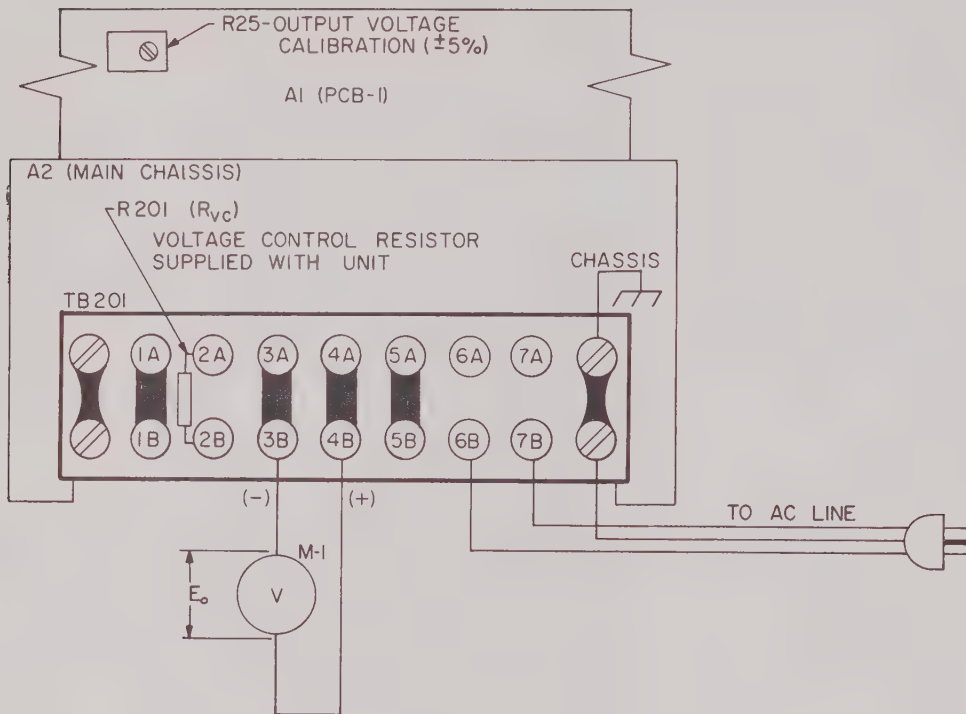

FIG. 2-3 PAR POWER SUPPLY GROUP, OPERATIONAL CHECK
b) Connect components as shown in FIG. 2-3.